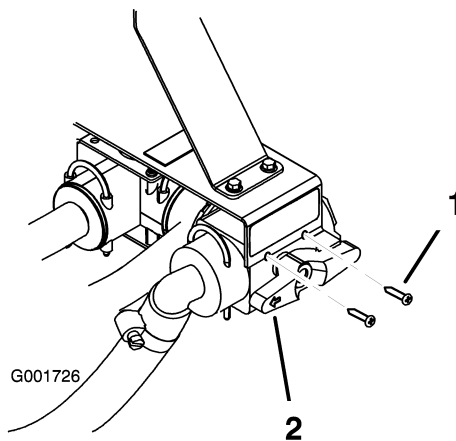

Figure 10
8. Secure the new control valve to the bracket using two screws (Figure 10).